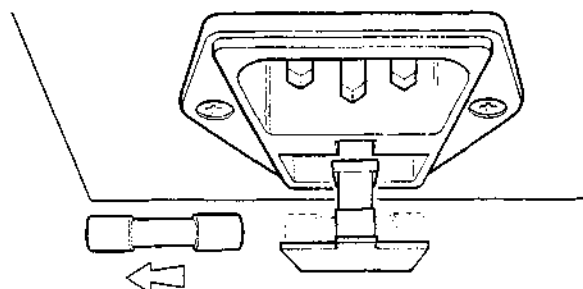

Figure 16. Electronic Module Fuse Replacement
Using a small screwdriver, open the fuse drawer below the power socket on the rear of the module (Fig 16). Remove the fuse and fit the spare fuse. The fuse must be IEC 127 approved ceramic type 250V 2A (T). Re-install the module into the base station, power up the system. Is the base station green indicator illuminated?